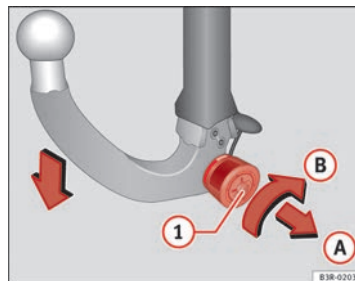

Fig. 159 Removable towing bracket: Removing the ball joint
- Insert the key in the lock ① ⇒ fig. 159 on the knob.